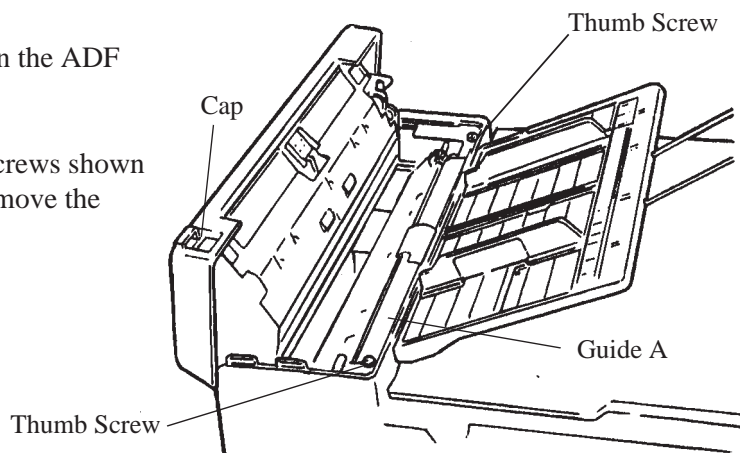

Figure 5.4 Pick Roller replacement
- (b) Remove two thumb screws shown in Figure 5.4. And remove the Guide A.